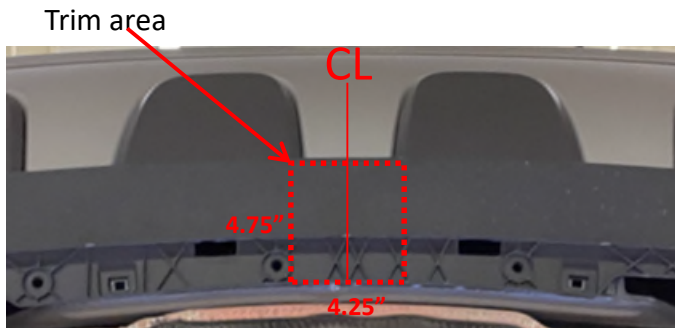

Figure 2
8. Trim fascia – Locate the center of fascia. Use a tape measure, marker, and die grinder, to cut a 4.75"x4.25" notch in the bottom of fascia. See Figure 2. Note: Be sure area is clear of all electrical wiring before trimming.